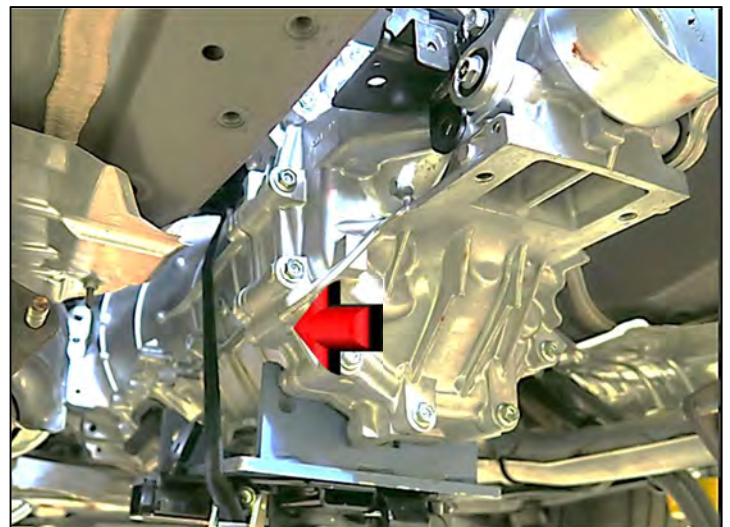

Figure 72
73. Push the transmission forward until the transmission case is flush against the engine. (Figure 72)